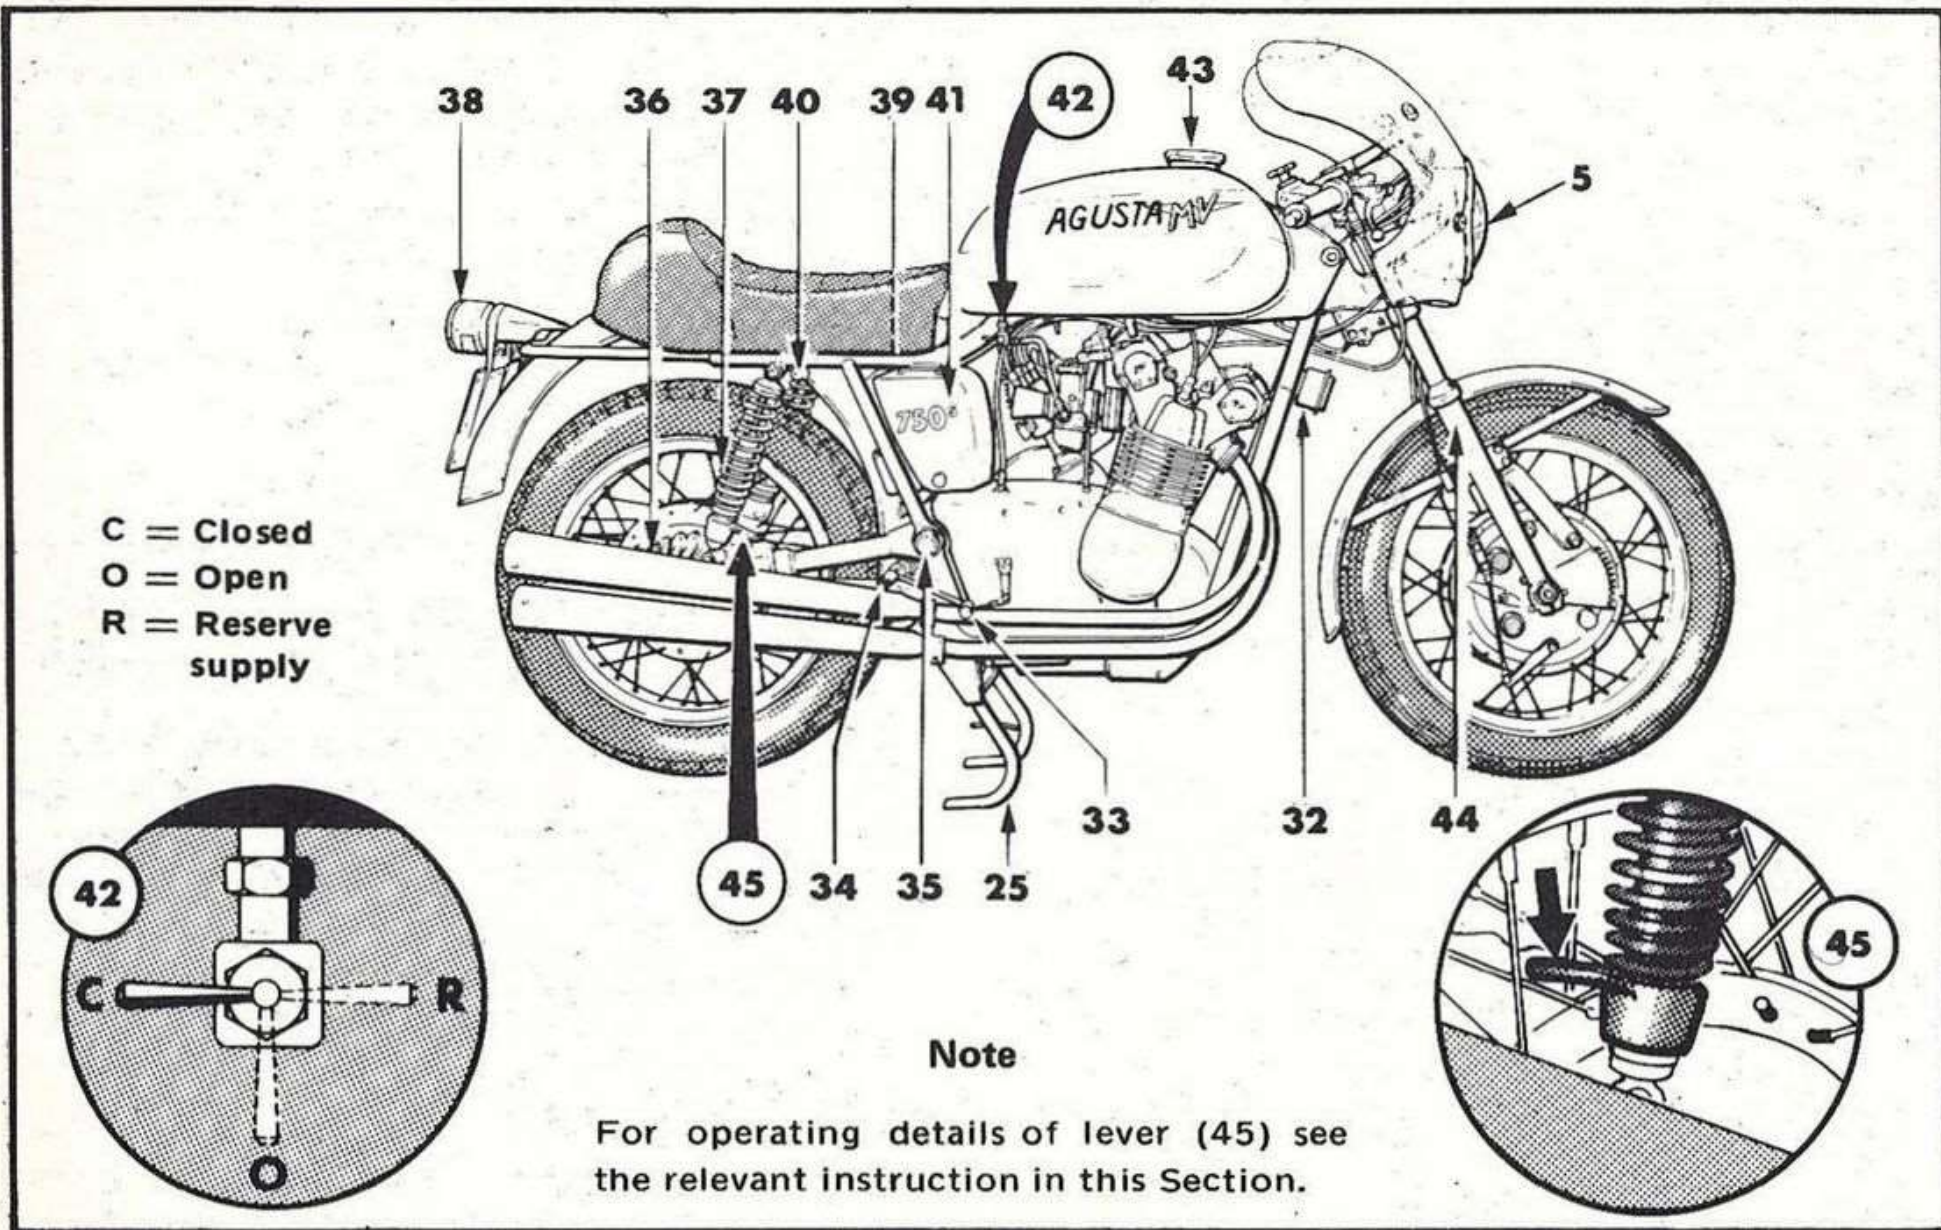

Figure 1-2. Motorcycle main controls and instruments (sheet 3 of 3)
24. BATTERY HOLDER — Left side. See Section III "MAINTENANCE — ADJUSTMENTS" for details and (41) for Right side.
31. DISC BRAKE HOUSING — Optional. See figure 1-2, sheet 2 of 3 for detail, and see Section III "MAINTENANCE — ADJUSTMENTS" for further information.
Legend figure 1-2 (sheet 3 of 3)